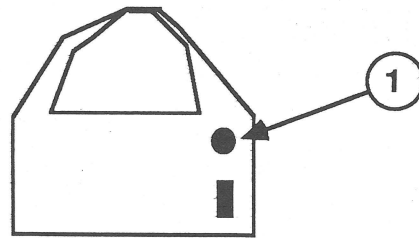

FIGURE 5
6. On the cartridge, turn the knob (see Figure 5, #1) clockwise until you hear it "click" and the ribbon is taut.